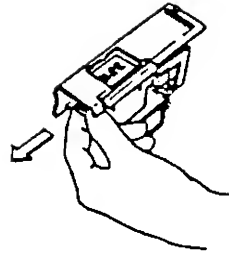

Fig. 20
4. Draw out the store name stamp in the direction shown in Fig.20 with the protruding part pinched with your fingers (Fig. 20).